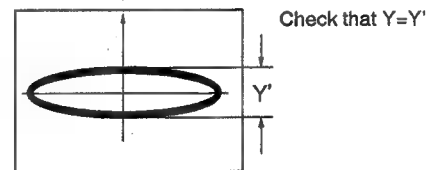

Fig. 2 Lissajous figure of the outer track of the disc (CD)
5. Close the TRKG servo and search frame #100, then open the TRKG servo again to observe the Lissajous figure. At this time, check that the Y-axis amplitude of the Lissajous figure is the same as that noted in step 4. (Fig. 2)
4. Fine-adjust the grating so that the Y-axis amplitude of the Lissajous figure is minimized. (Fig. 2)
9. Re-open the TRKG servo and observe the Lissajous figure to check that the Y-axis amplitude is minimum. (Fig. 2) If the Y-axis amplitude of the Lissajous figure is larger than specified, repeat the adjustment procedures from steps 5 to 8.
10. After adjustment is complete, perform the adjustment in "8. Spindle Motor Centering Check" item 6.
4. Select the oscilloscope's X-input(CH-1) and check that the positive and negative amplitudes of the TRKG error signal are equal. (Fig. 2)